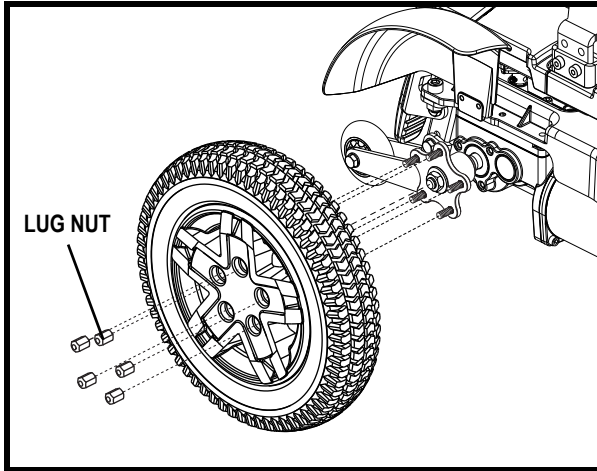

Figure 23. R44 Drive Wheel
4. Remove the five (5) lug nuts from the wheel hub. See figure 23.